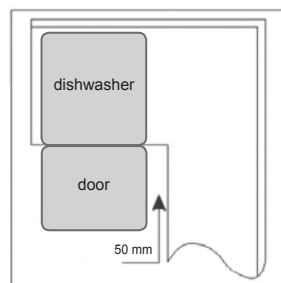

Figure 2. Top view.
2. If you place the dishwasher in a corner piece of furniture, the minimum distance between the side part of the open door and kitchen furniture shall be 50 mm (Fig. 2).